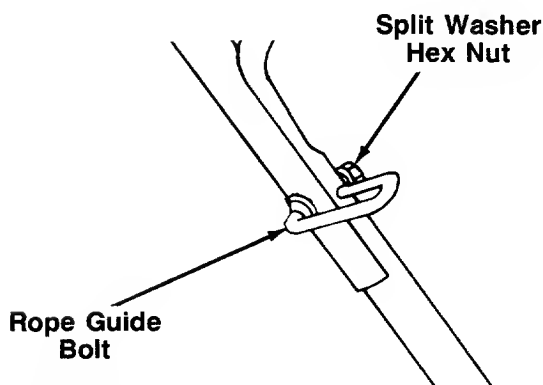

FIGURE 5.
3. Insert the rope guide bolt through the right hand side of upper and lower handle. See figure 5. Secure with split washer and hex nut, finger tight only.